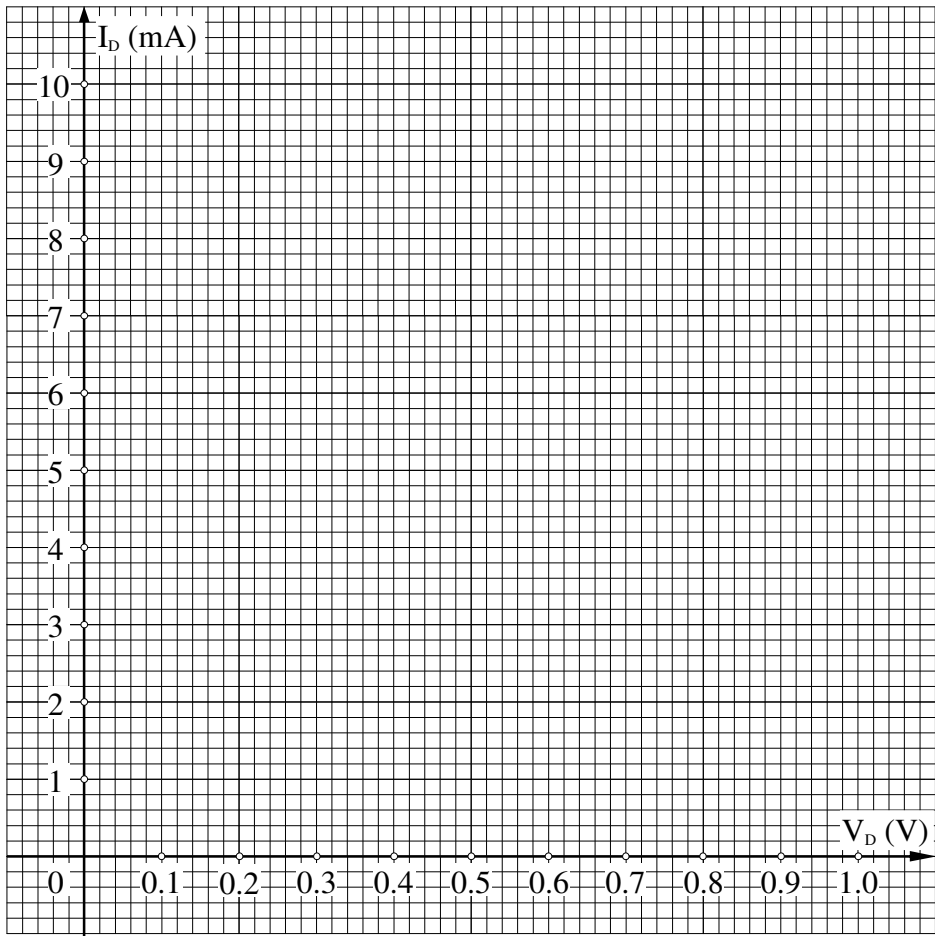

Fig. 2.8. I-V graph
5. From the values of V_D and I_F in Table 2.1 plot a graph in Fig. 2.8.
6. Using the curve of Fig. 2.8 determine the diode voltage at diode current levels indicated in Table 2.2. Then determine the DC resistance at each current level. Show all calculations.